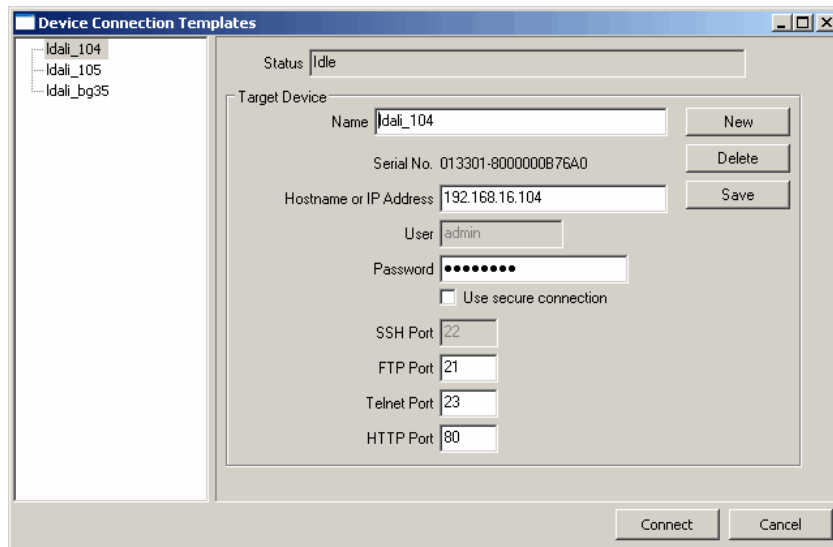

Figure 12: L-DALI Configuration Software, FTP Connection Dialog
2. In the FTP connection dialog (see Figure 12) enter the IP address of the L-DALI, the user name and password. The default user is 'admin' and the default password is 'loytec4u' (older firmware versions used 'admin').